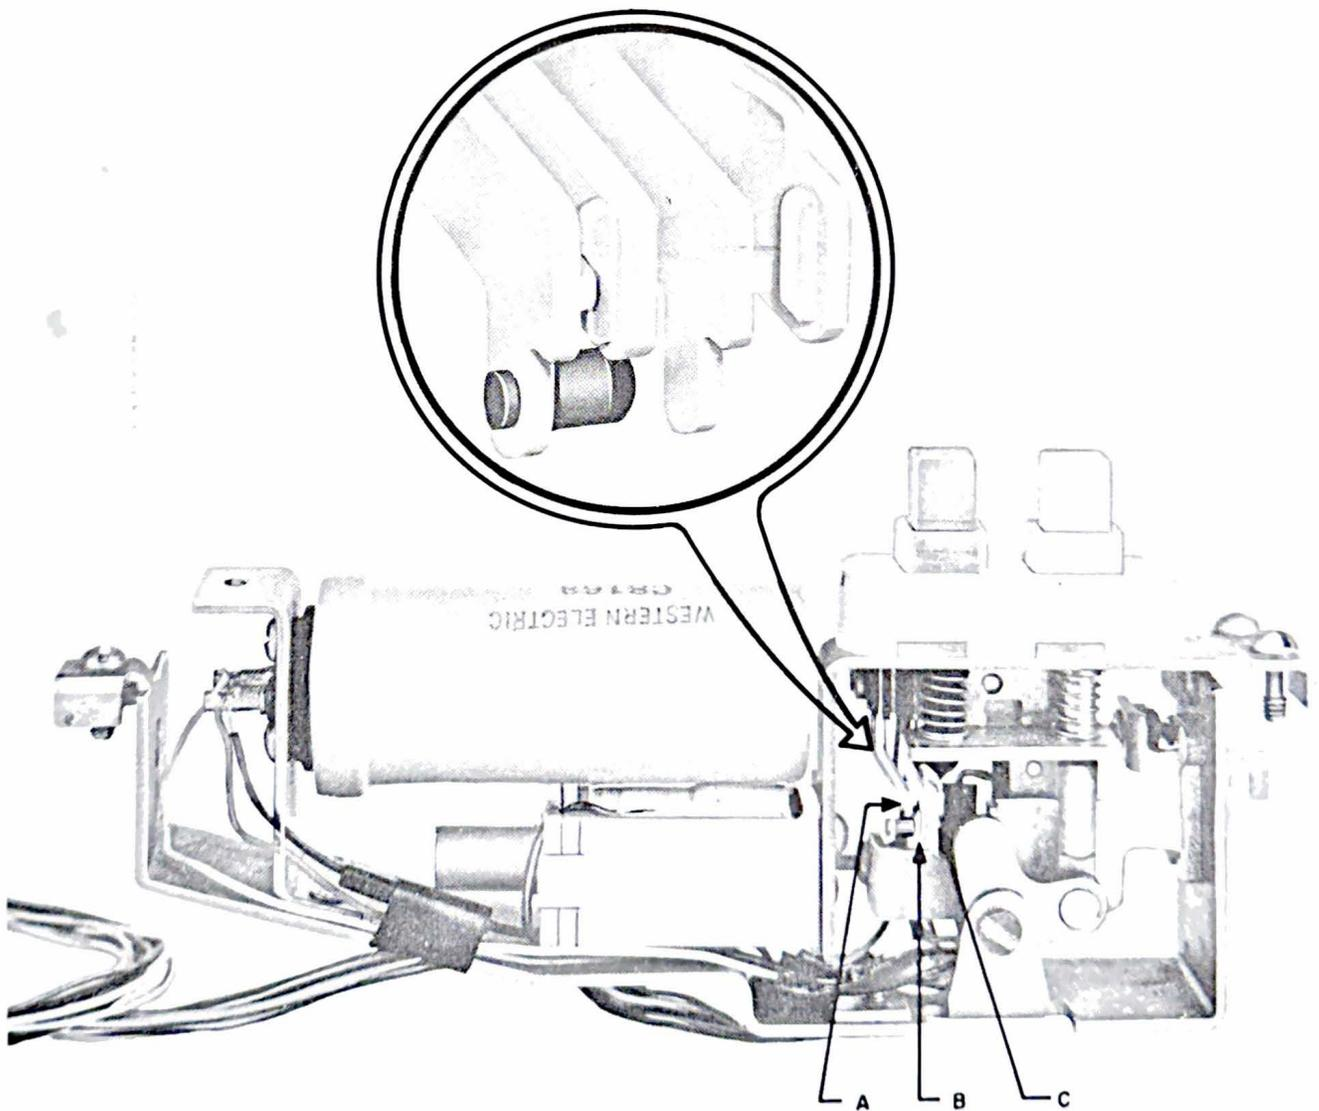

Fig. 17 – 622A Key, Right Side
- The make contacts of the flash key shall make before the break contacts break; gauge by eye (A in Fig. 17).
- There shall be perceptible stud gap between the stud and the tang on the make contact; gauge by eye (B in Fig. 17).
- Contact separation shall be 0.006 inch minimum; gauge by eye (C in Fig. 17).